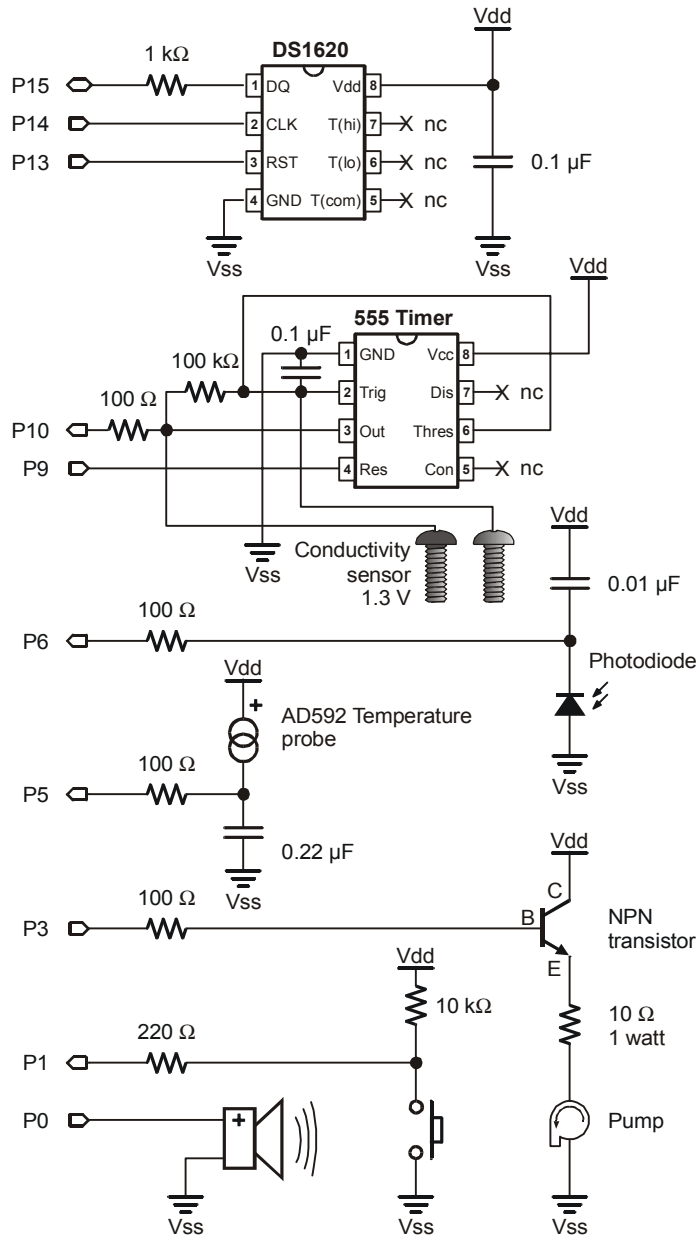

Figure 6-2
- √ Add the transistor and pump circuit to the Board of Education, following the schematic in Figure 6-2 and the wiring diagram in Figure 6-3.